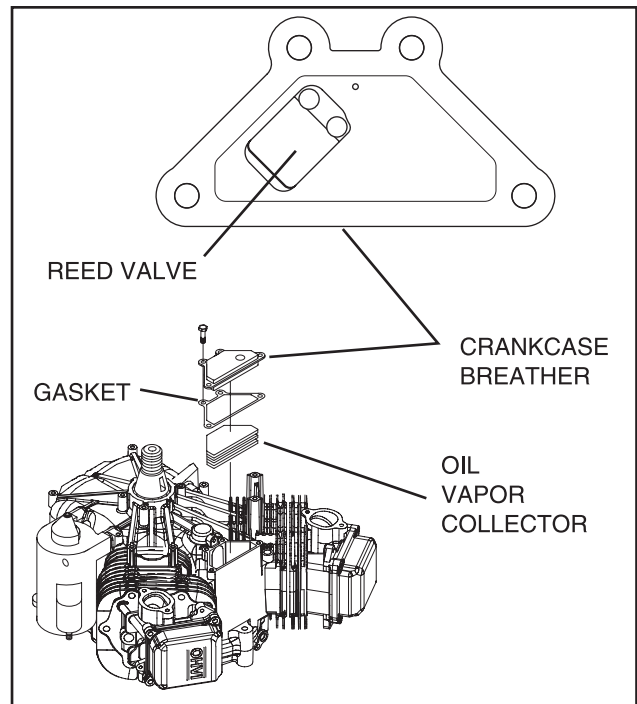

Figure 2-8. – Crankcase Breather
2. Check to see that reed valve is not deformed (Figure 2-8).
2. Install breather with new gasket (Figure 2-8).